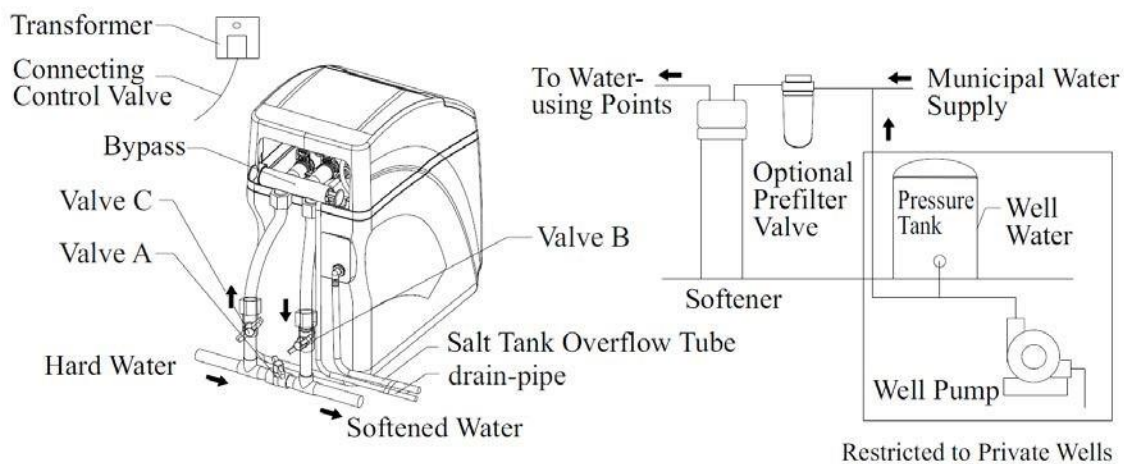

Figure 8.2 : Installation drawing
Pipeline installation and connection should conform to the local installation rules. Inlet/outlet should be connected with the water pipe in the same axis (Refer to figure 8.2). The position of inlet and outlet shouldn't be reversed.
–It is suggested to install a manual bypass valve between the main water inlet and inlet/outlet of the device, making it convenient for installation and maintenance. (Refer to figure 8.2).